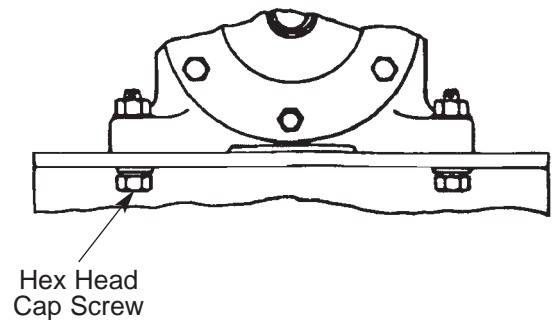

FIGURE 3
#### STEP 4 (See Figure 3)
- Firmly tighten mounting bolts and locking nuts (Figure 3).
## STEP 4 (See Figure 3, page 6)